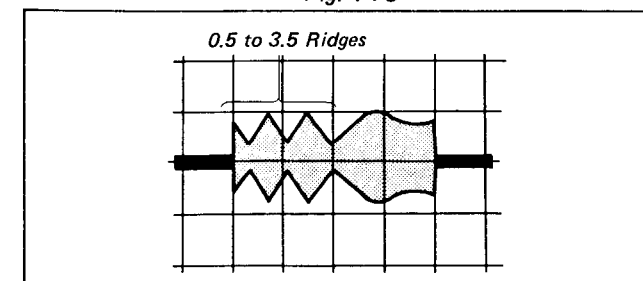

Fig. 1-74
2) Check that the RF waveform on the inlet side has 0.5 to 3.5 ridges in this condition. If not, adjust as follows. (See Fig. 1-74.)